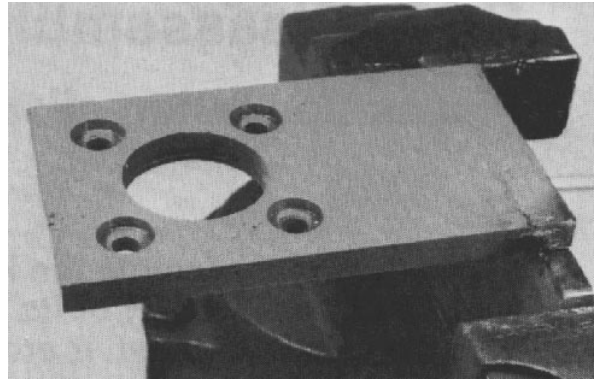
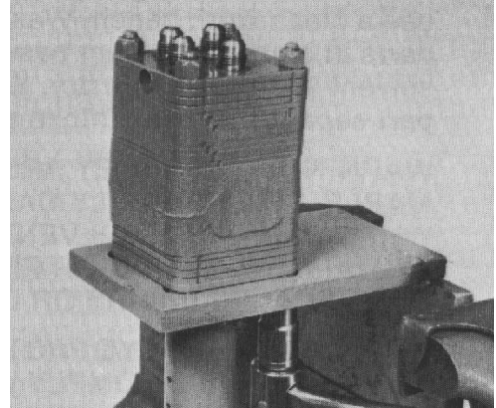

Figure 25
Figure 26
1. To avoid distorting or damaging the steering valve, do not clamp it directly into a vise. Clamp a service assembly fixture securely in a vise (Fig. 25). Put the steering valve, input shaft first, into the service assembly fixture. Attache the steering valve to the fixture with four (4) 5/16-24 UNF nuts (Fig. 26).